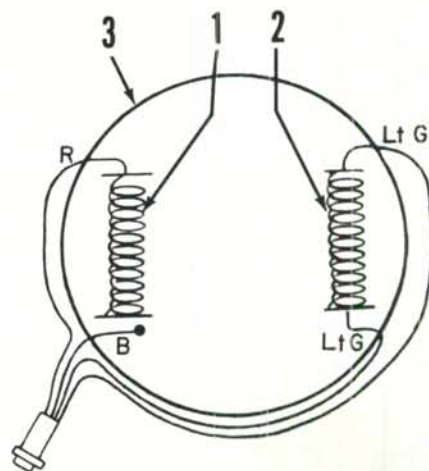

Fig. JS1-20—View identifying magneto components and color of leads.
Unscrew cap (C—Fig. JS1-18) and withdraw wiring harness leading to electric box to expose terminal ends of wires leading to exciter coil. Refer to Fig. JS1-20. Check condition of exciter coil (1) by attaching one tester lead to terminal end of red wire (R) and attaching other tester lead to terminal end of black wire (B) leading to magneto assembly. Exciter coil can be considered satisfactory if resistance reading is within the limits of 168-252 ohms. Exciter coil is serviceable after removing flywheel cover and flywheel. Make sure a suitable puller is used to withdraw flywheel. Tighten flywheel retaining screw to 39 N·m (29 ft.-lbs.). Recheck ignition timing as previously outlined
The charge coil can be statically tested using a suitable ohmmeter. Unscrew cap (C—Fig. JS1-18) and withdraw wiring harness leading to electric box to expose terminal ends of wires leading to charge coil. Refer to Fig. JS1-20. Check condition of charge coil (2) by attaching one tester lead to terminal end of one light green wire (Lt G) and attaching other tester lead to terminal end of remaining light green wire (Lt G). Resistance reading should be 2.4-3.6 ohms. Check resistance between each charge coil wire and black wire. Tester should show 1.2-1.8 ohms resistance at each wire. To check rectifier/regulator assembly, refer to chart shown in Fig. JS1-21. To check rectifier/regulator during operation, first make sure battery is fully charged, charge coil test good and all wiring is in good condition and all connectors fit tightly or are securely fastened. Attach test leads of a suitable voltmeter directly on battery terminals.